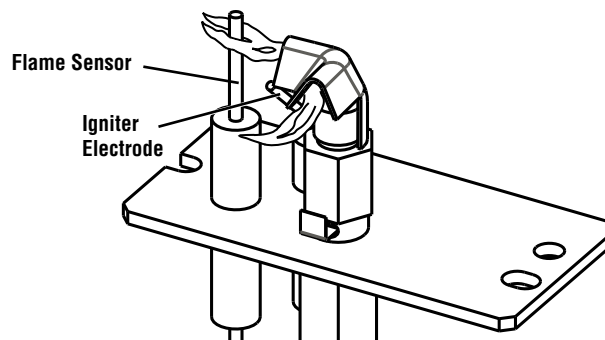

Figure 29 - Proper Pilot Flame Appearance
- ☐ Periodically inspect the pilot system for proper flame. Turn the pilot ON/Auto switch to the ON position. Ensure the igniter lights the pilot. The pilot flame should engulf the flame sensor as shown in **Figure 29**. See *Intermittent/Standing Pilot Mode* on **Page 22** for instructions on switching from intermittent ignition to a standing pilot.